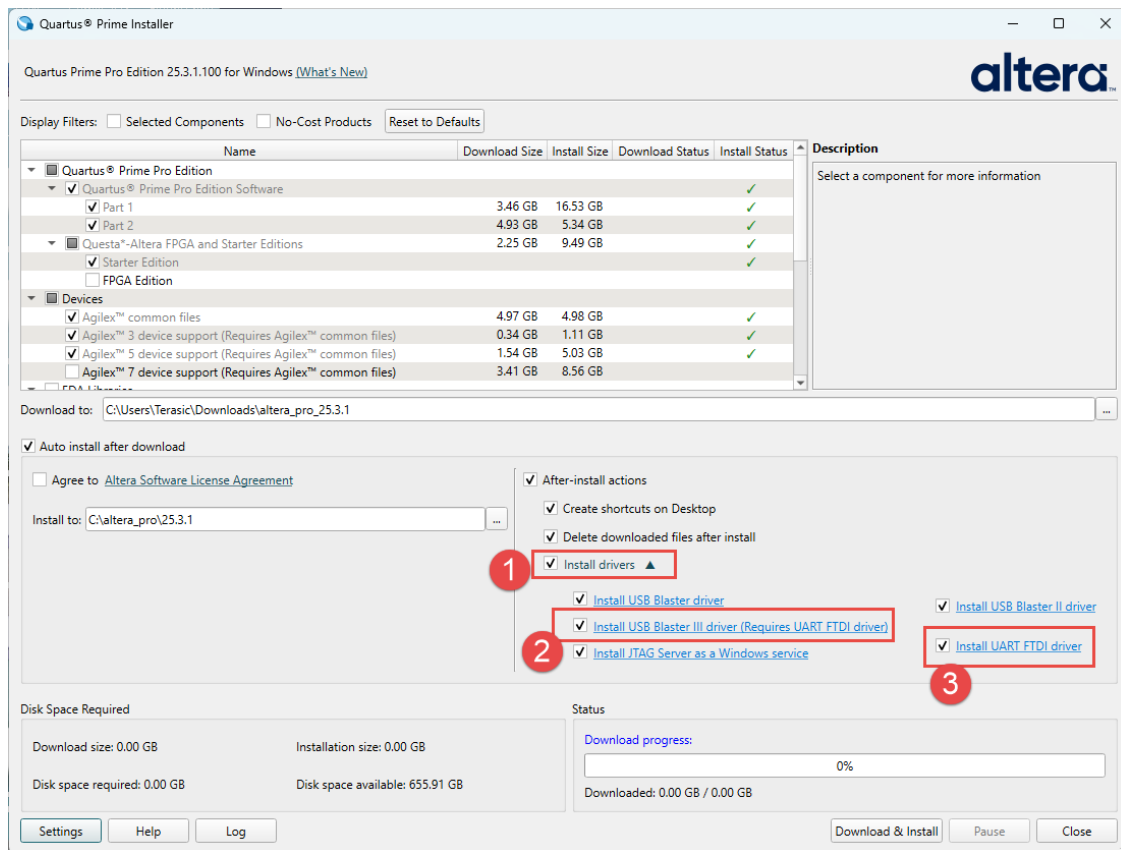

Figure 4-1 Install USB Blaster III and USB to UART Driver
2. In the final steps of the installation wizard, ensure that the "Install USB Blaster driver" and "Install UART FTDI driver" options are checked (See **Figure 4-1**).